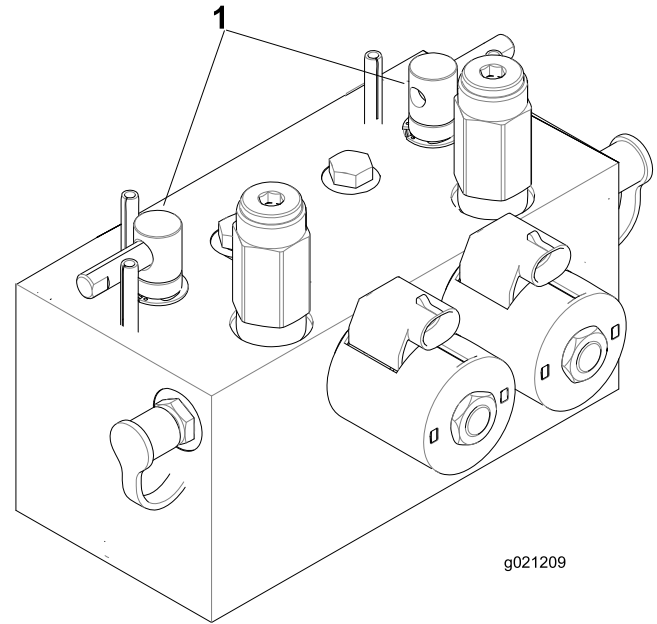

Figure 76
2. Unlock and raise the seat to expose the backlap levers (Figure 76).
5. Select either the front, rear, or both backlap levers to determine which units to backlap (Figure 76).